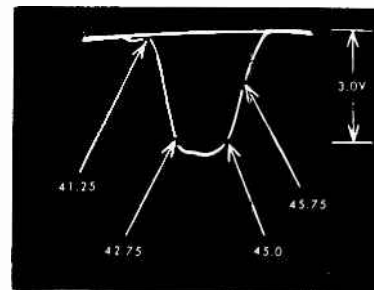
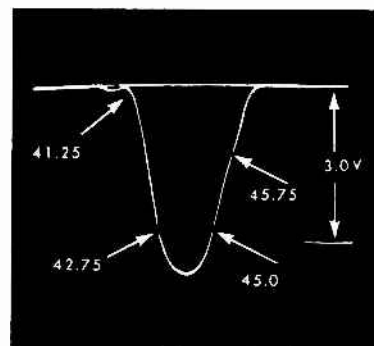

Fig. 9. Overall IF Response 17A & 19A Chassis
Fig. 10. Overall IF Response 15A26 Chassis
jumper between terminal 'E' and the junction of the 56 (68 in 15A26) and 1500 ohm resistors in the cathode of the 1st IF. Adjust sweep to obtain a response similar to Fig. 9. Switch oscilloscope to 10 X gain to 'blow up' the traps.
7. Disconnect the jumper between 'E' and the 56 and 1500 ohm cathode resistors. Connect this jumper between 'E' and chassis. Adjust sweep generator for 3 volts peak to peak output. Alternately adjust the 2nd, 3rd, 1st IF and the converter plate coil until an overall response similar to Fig. 9 (Fig. 10 for 15A26) is obtained. It will be found that the 2nd IF affects the low side (42.75 Mc) and the 3rd IF the high side of the response. After alignment remove all jumpers and check operation.